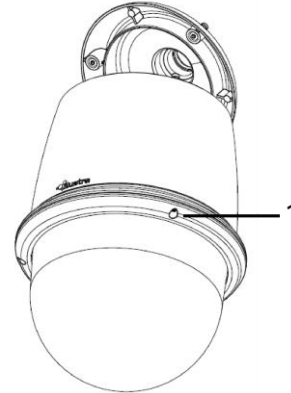

Figure 2
- A. Remove the three screws located on the camera head (1) (Figure 2).